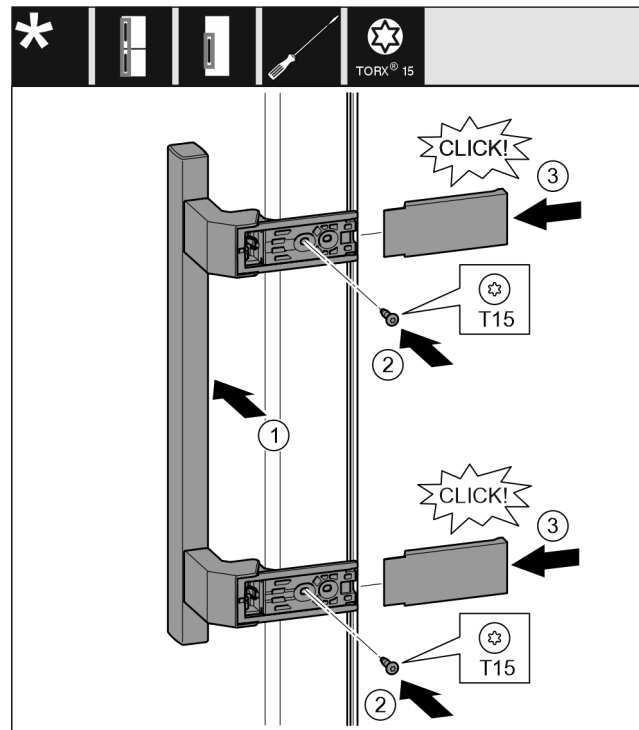

Fig. 17
- ▶ Position the handle on the opposite side. Fig. 17 (1)
- ▶ Tighten the screws using the T15 screwdriver. Fig. 17 (2)
- ▶ Position the covers on the side and push them on. Fig. 17 (3)